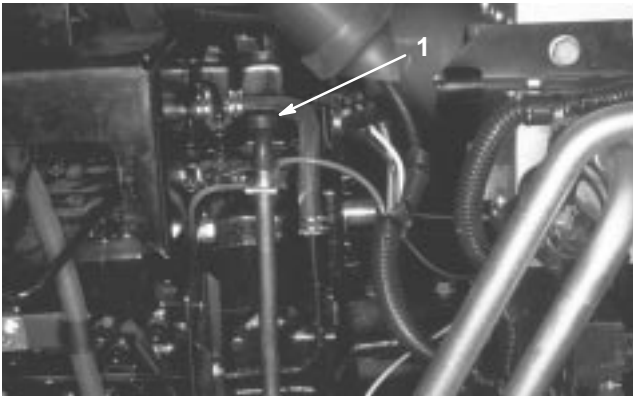

Figure 34
2. Remove dipstick, wipe with clean rag (Fig. 34) and fully insert in tube. Remove from tube and check oil level. Level should be between the marks on the dipstick. If level is low, remove filler cap (Fig. 35). Add oil until level is to top mark on dipstick. **Do not overfill.**